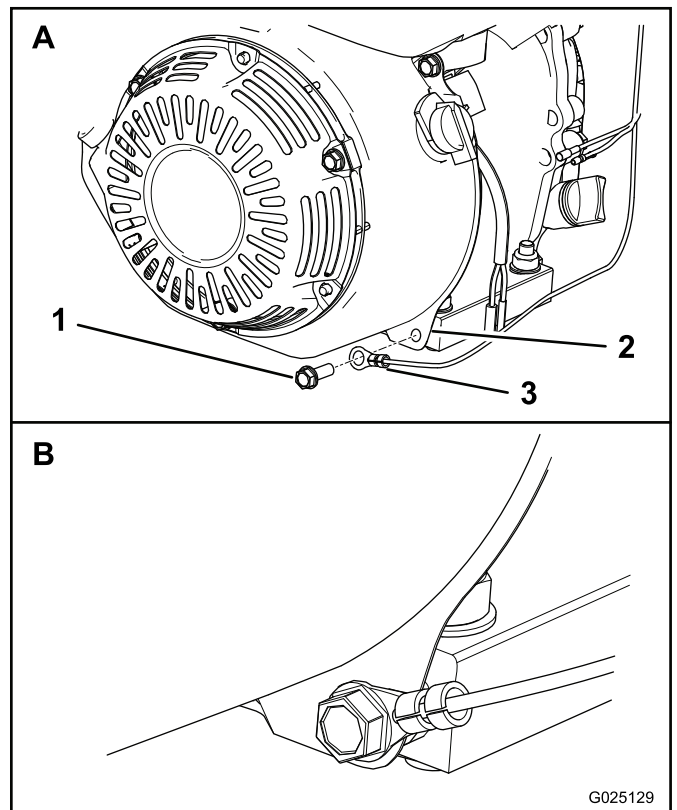

Figure 4
6. Remove the bolt from the lower-right corner of the engine shroud (Figure 4).
7. Align the grounding terminal of the wireless-hour-meter wiring harness over the bolt hole, and install the bolt (Figure 4).